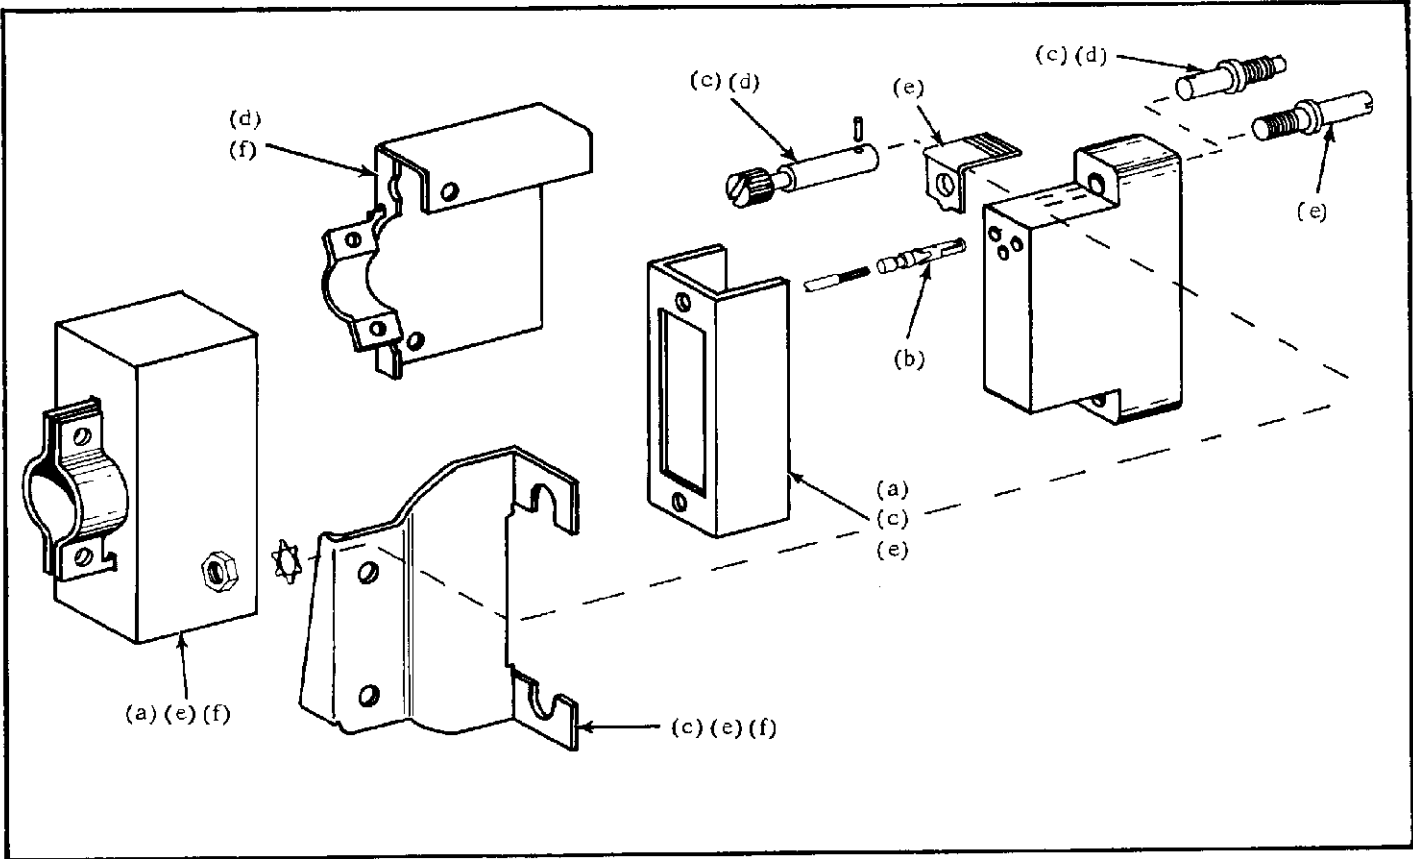

Fig. 9
6. CONNECTOR ASSEMBLY (SEE FIGURE 9)